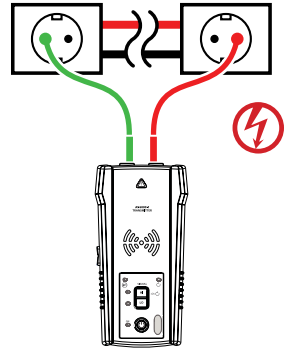

Figure 3.1a
2. Connect red lead to line/phase wire (on the load side of the system). The signal will ONLY be transmitted between the load-side to which the transmitter is connected and the source of power (see figure 3.1a).